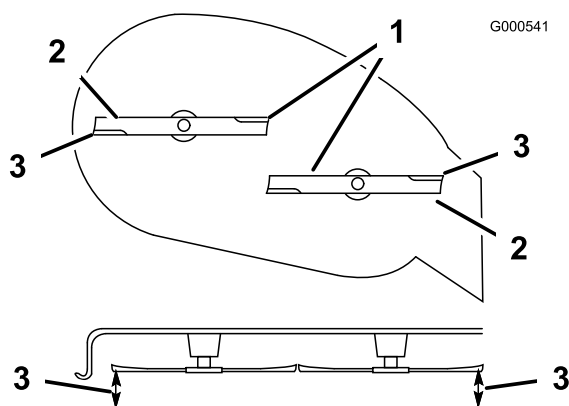

Figure 42
5. Carefully rotate the blade(s) side to side (Figure 42). Measure between the outside cutting edges and the flat surface (Figure 42). If both measurements are not within 3/16 inch (5 mm), an adjustment is required; continue with this procedure.